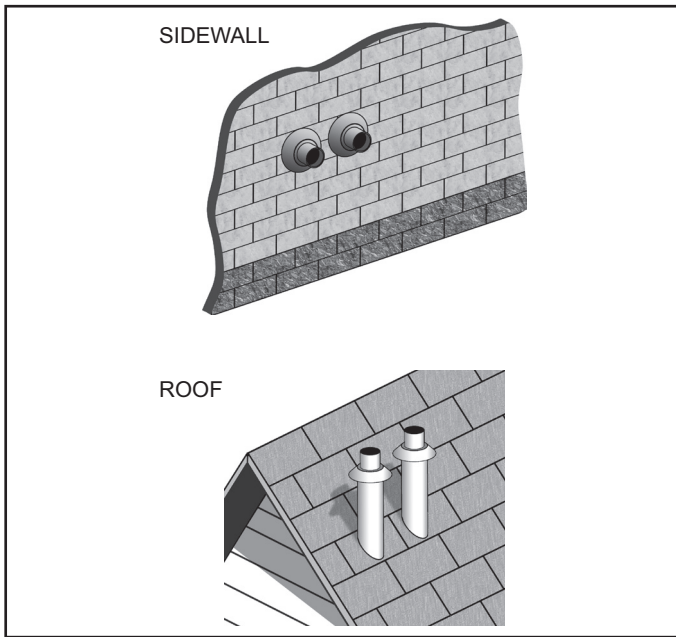

Figure 33
1. The clearance between multiple termination caps must be 0 inches (touching) to a maximum of 2 inches (5 cm), dimension A - Figure 28, when installing concentric terminations in close proximity. See Figure 33 on page 31.
Two concentric terminations may be installed in close proximity as shown in Figure 33 or with standard clearances when this arrangement is not possible. See Figure 28 on page 30 for detailed information on clearances. See Figure 29 on page 30 when installing three concentric terminations.